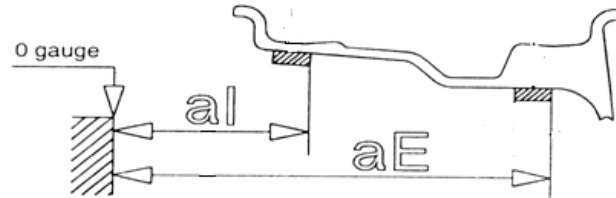

Figure10-3
10.4.3 Slowly rotating wheel, when inside counterweight position indicator light all on, and show "OK", stick correspond counterweights on 12 o'clock position inside of rim refer to left part of figure 10-3.
10.4.4 Slowly rotating wheel, when outside counterweight position indicator light all on, and show "OK", stick correspond counterweights on 12 o'clock position outside of rim refer to right part of figure 10-3.
10.5.4 Slowly rotating wheel, when outside counterweight position indicator light all on, and show "OK", stick correspond counterweights on 12 o'clock position outside of rim refer to figure 10-3.